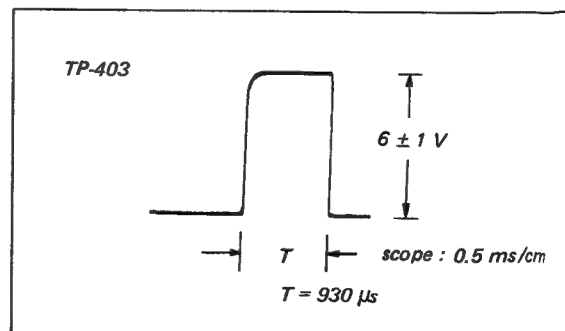

Fig. 6-10. Delay multivibrator adjustment (REC mode)
Adjust for: A pulse width of 930 μ sec. See Fig. 6-10.
3. Adjust R413 to obtain the pulse width (T) of 930 μ sec as shown in Fig. 6-10.